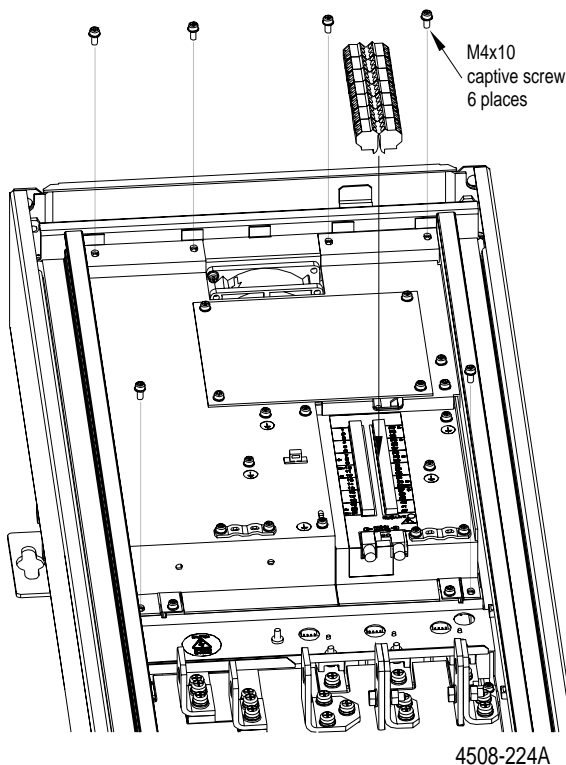

Figure 3.14: Cover Plate
- 2) Remove the top cover plate by undoing six Phillips head M4x10 screws as per figure 3.14.